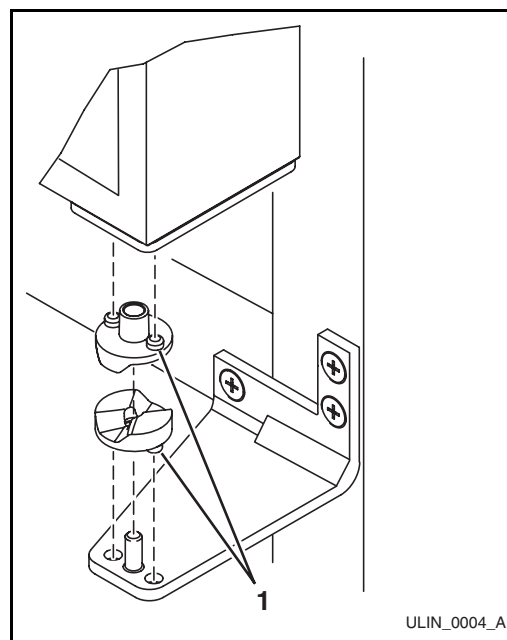

Figure 21
5. After adjustment is complete, remove the door closers from the bottom hinge, clean thoroughly and apply petroleum jelly to the mating surfaces of the closers. Be sure that bosses on closers (**Figure 21, 1**) align with holes in the door and bottom cabinet hinge plates. Mount door and install top hinge pivot pin.